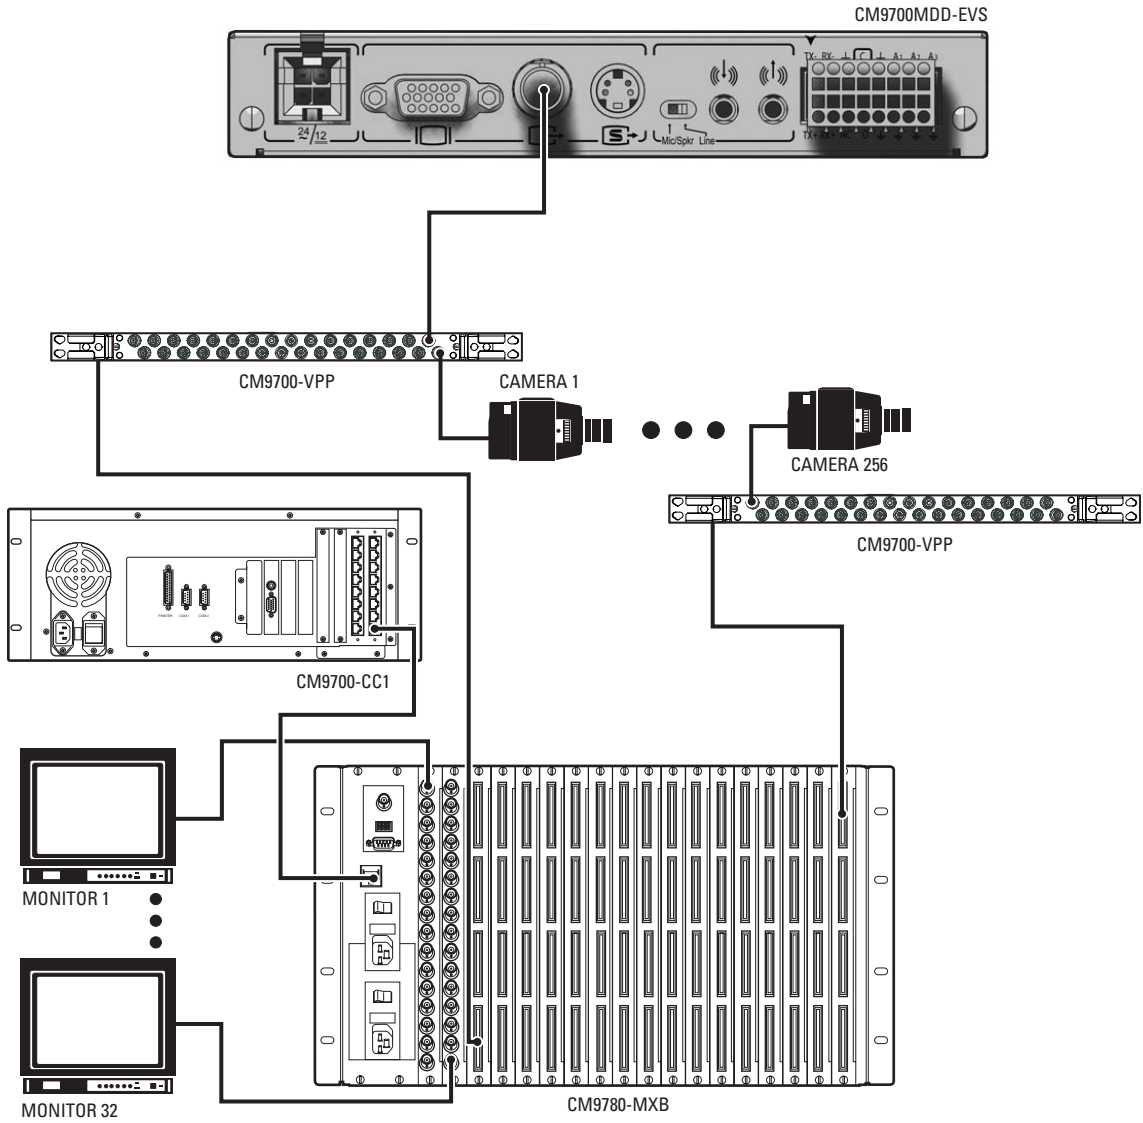

Figure 16. Sample Video Connection Between the CM9700MDD-EVS and the CM9780-MXB
- In a System 9780, video input connectors are on the CM9700-VPP panel, as shown in Figure 16 on page 20.
NOTE: Figure 16 illustrates a sample video connection. Video from the CM9700MDD-EVS can be connected to any unused input on the matrix bay.